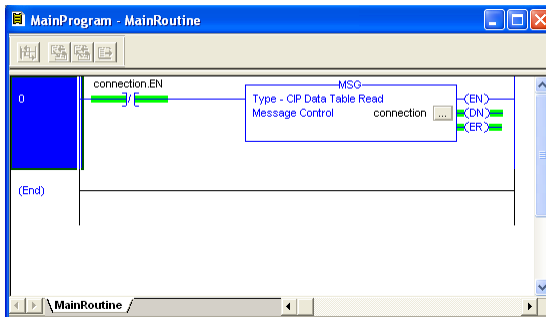

Figure 58: Complete Program
- 6) The program is now complete. Refer to Figure 58.